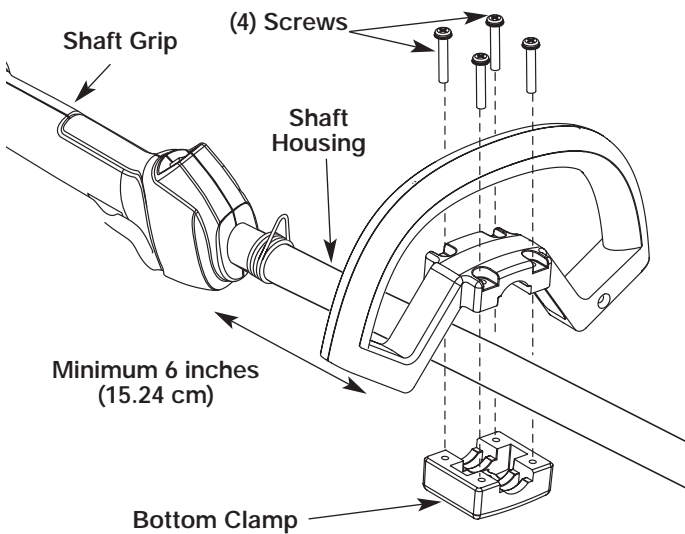

Fig. 1
2. Place D-handle over the shaft housing and onto the bottom clamp (Fig. 1). Place it a minimum of 6 inches (15.24 cm) from the end of the shaft grip.